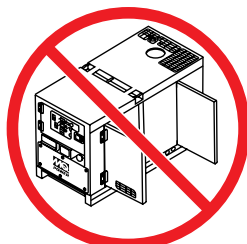

**Figure 35. Main, Aux. and GFCI Circuit Breakers (OFF)**
1. Place the **main, GFCI, and aux.** circuit breakers (Figure 35) in the **OFF** position prior to starting the engine.